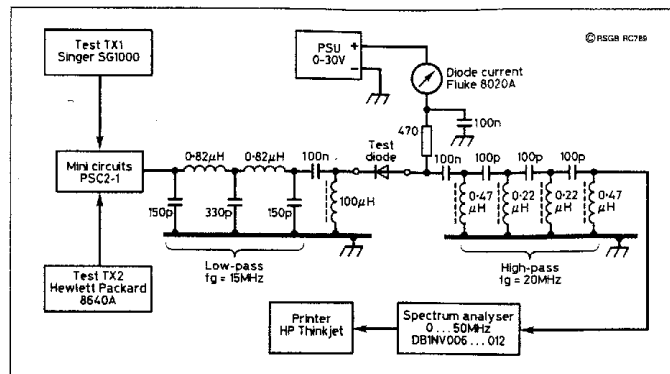
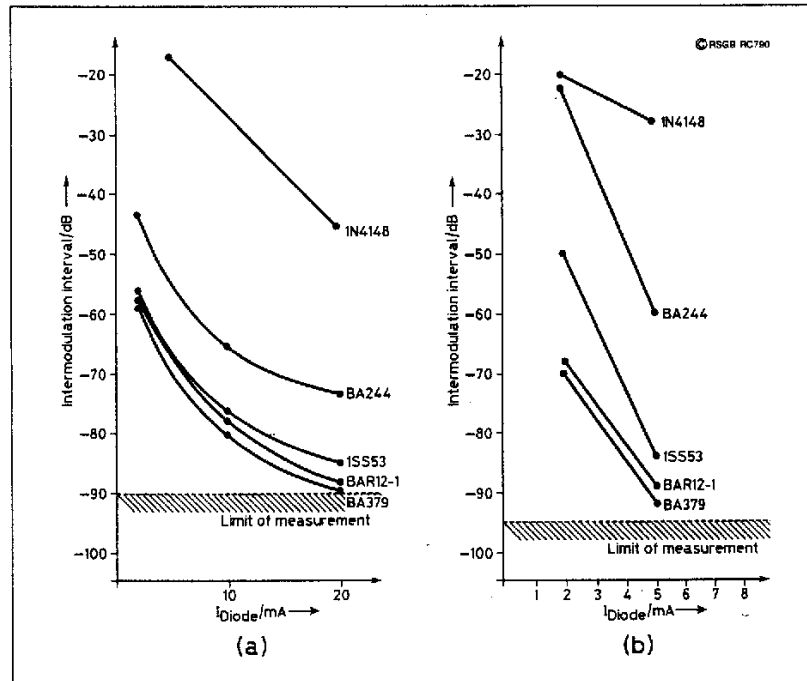

Fig 5: Test rig used by DB1NV for the measurement of intermodulation characteristics of switching diodes.
Fig 6: (a) Second-order IMP plotted by DB1NV against diode current (b) Third-order IMP plotted against 2mA and 5mA diode currents.
Another source of information on the 'intermodulation properties of switching diodes' is an article which appeared in *VHF Communications* (Vol 26, Spring, 1/1994, pp12-18). Dr Ing Jochen Jirmann, DB1NV, used the measuring rig shown in Fig 5 to measure intermodulation characteristics of a selection of switching diodes most of which have not been investigated by either WOIVJ or by G3SBI etc at SERC. DB1NV measured both IP2 and IP3. For the IP2 data he used test frequencies of 12 and 15MHz measuring IP2 at 27MHz while varying the diode DC from 2mA to 20mA: Fig 6(a). For IP3 he used test frequencies of 6 and 15.5MHz with the 1M product evaluated at 25MHz with diode currents of 2mA and 5mA only: Fig 6(b).
- The existing test rig of Fig 5 needs to be improved or re-constructed in order to check whether sufficient DC is flowing